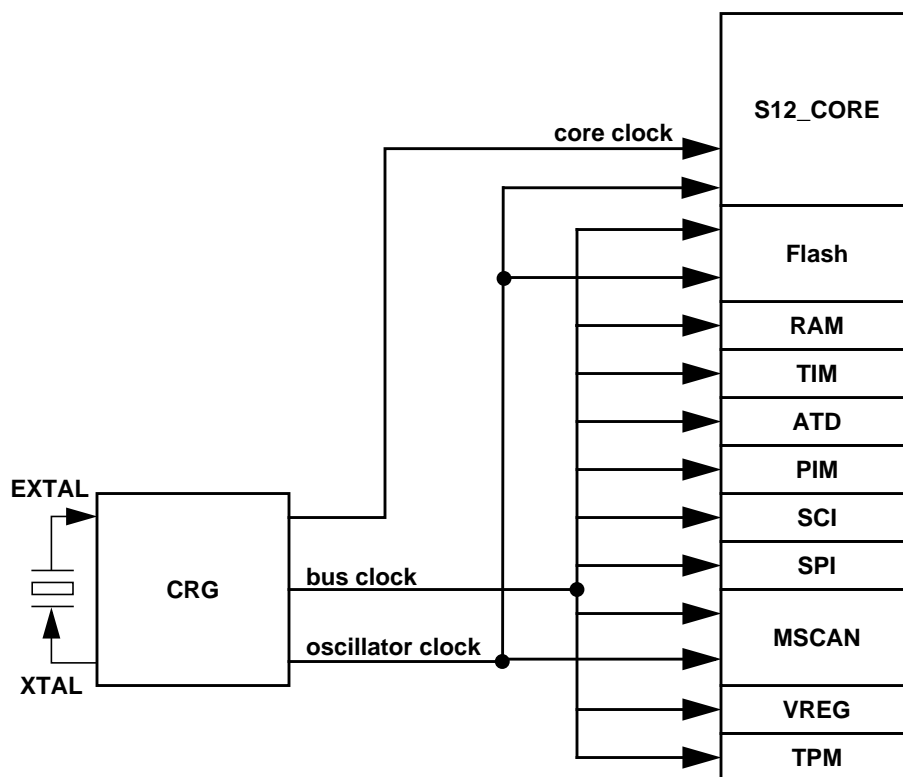

Figure 3-1 Clock Connections
**Figure 3-1** shows the clock connections from the CRG to all modules. Consult the CRG Block User Guide for details on clock generation.